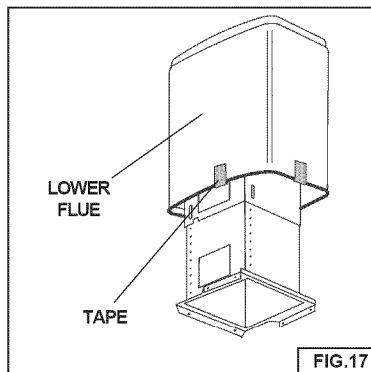

FIG.17
1. Slide the lower flue up and over the upper flue until it contacts the ceiling. Temporarily secure the both halves together with duct tape. Fig. 17.